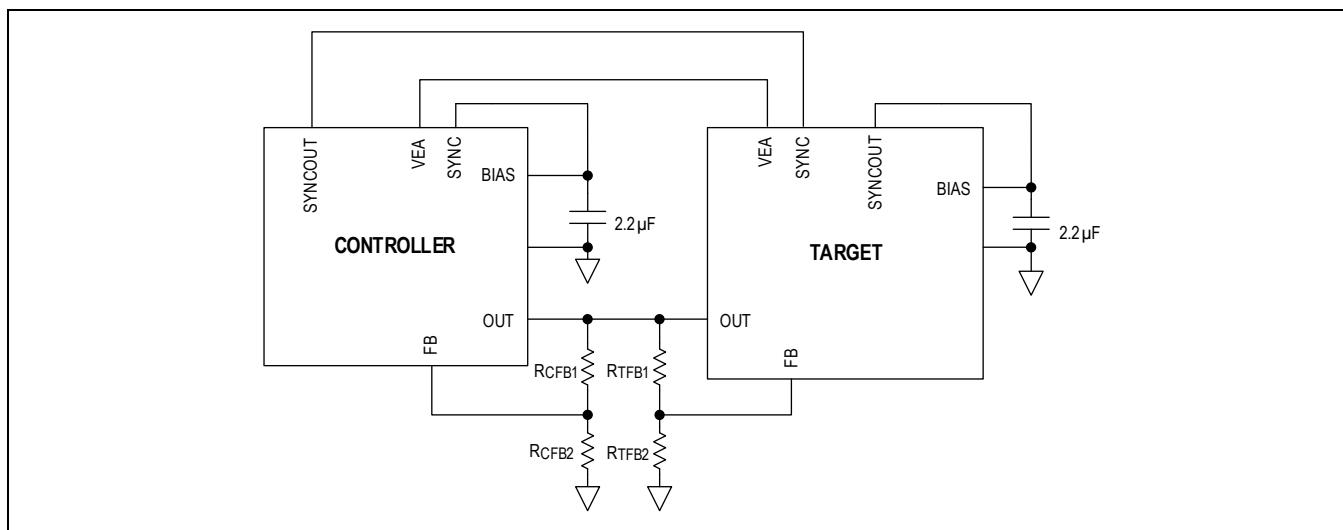

Figure 1. Typical Application Circuit for Dual-Phase Configuration with External Resistor-Divider
To set the output voltage to a value other than the available fixed V_{OUT} options, connect a resistor-divider between OUT, FB, and GND as shown in Figure 1. Use an identical but separate resistor-divider for controller and target.
3. Place the bootstrap capacitor $CBST$ close to the IC. Use short and wide traces from BST and LX , and minimize this routing parasitic impedance. High parasitic impedance from BST to LX impacts the switching speed, further increases switching losses, and high dV/dt noise. See Figure 1 for BST to LX routing.